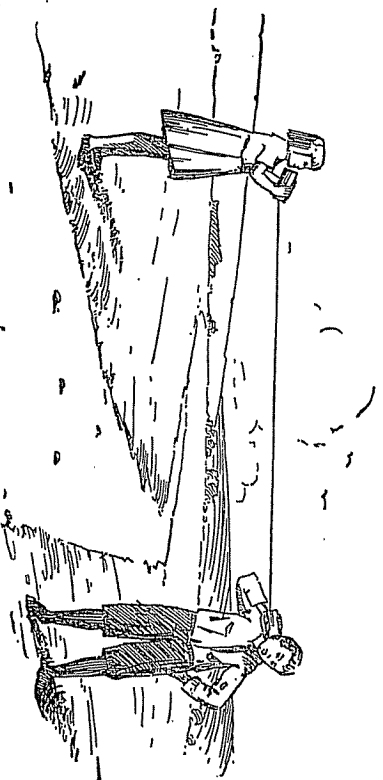

FIG. 20
**Experiment No. 13.** Take two tin boxes. Pierce the center of each of the boxes and, through the holes, put a stout cord or string and stretch it as per illustration. Now this is a very simple kind of a toy telephone, and yet is demonstrated quite conclusively and effectively how nicely sounds will travel through solids—that is, down the string by means of vibrations (the “to and fro” motion). This “to and fro” motion, which is caused by the vibration on one of the tin cans, sets the string in vibration which transmits the sound from one to the other. In this way two may talk much further apart and much more distinctly than they could through the air. (See Figure 20.) Any boy can rig up a telephone without very much expense and have great fun with it. You can elaborate on this apparatus considerably and make quite a unique telephone.